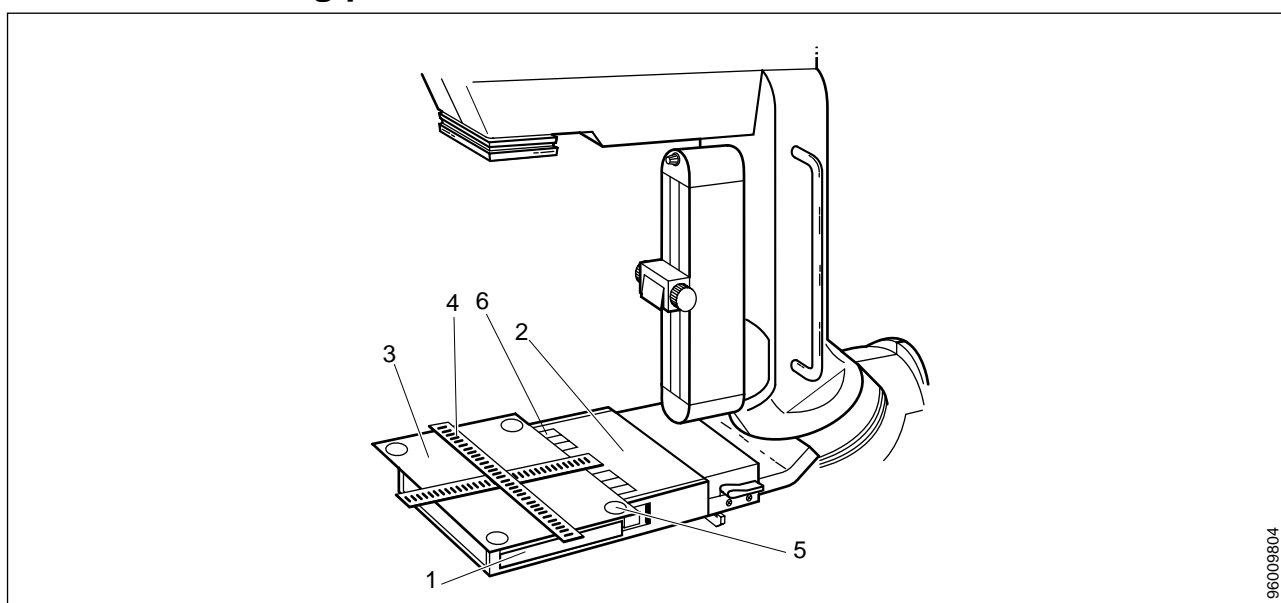

Fig. 1 Checking the radiation field
1. Put film into the cassette (1/Fig. 1). The film shall be centred in the cassette.
2. Insert the cassette into the object table (2/Fig. 1).
3. Place film bag (3/Fig. 1) on the object table. The film bag must extend beyond the chest-wall edge by minimum 10 mm.
4. Place a centering cross (4/Fig. 1) on the film bag or cassettes.
5. Switch on the light field and mark the edges of the light field with four coins (5/Fig. 1).